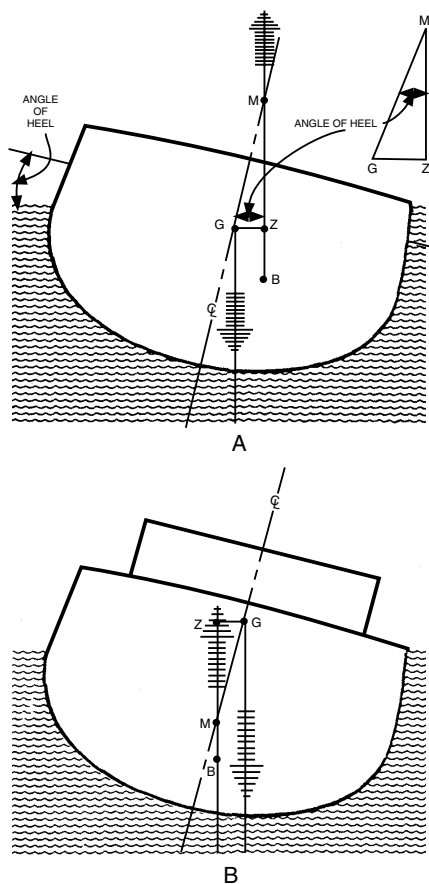

Figure 12-23. A. Stable condition, G is below M; B. Unstable condition, G is above M.
The distance from the center of gravity (G) to the metacenter is known as the ship's METACENTRIC HEIGHT (GM). Figure 12-23, view A, shows a ship heeled through a small angle (the angle is exaggerated in the drawing), establishing a metacenter at M. The ship's righting arm is GZ, which is one side of the triangle GZM. In this triangle GZM, the angle of heel is at M. The side GM is perpendicular to the waterline at even keel, and ZM is perpendicular to the waterline when the ship is inclined.
The ship's METACENTRIC HEIGHT (GM) is not only a measure of the ship's RIGHTING ARM (GZ) but is also an indication of whether the ship is stable or unstable. If M is above G, the metacentric height is positive, the moments which develop when the ship is inclined are RIGHTING MOMENTS, and the ship is stable, as shown in view A of figure 12-23. But if M is below G, the metacentric height is negative, the moments that develop are UPSETTING MOMENTS, and the ship is unstable, as shown in view B of figure 12-23.